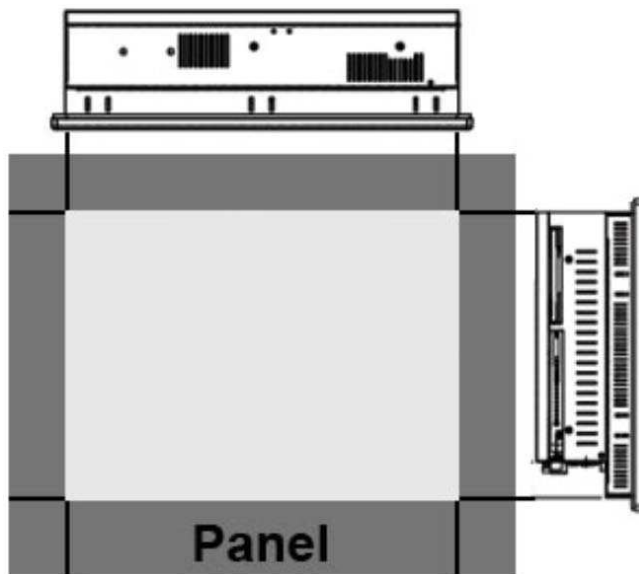

Figure 3-14: Cut the Panel
Step 2: Cut out a section from the panel that corresponds to the rear panel dimensions of the IVC-17PC-P. Take care that the panel section that is cut out is smaller than the overall size of the metal frame that surrounds the IVC-17PC-P but just large enough for the rear panel of the IVC-17PC-P to fit through (see **Figure 3-14**).